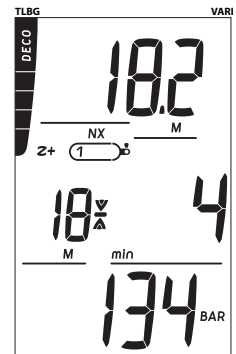

Fig. 67 - DV2 MAIN (at the stop)
- > Once within 10 FT (3 M) of and below the required Stop Depth, the Stop icon (both Arrows with Stop Bar) will be displayed solid (Fig. 67).